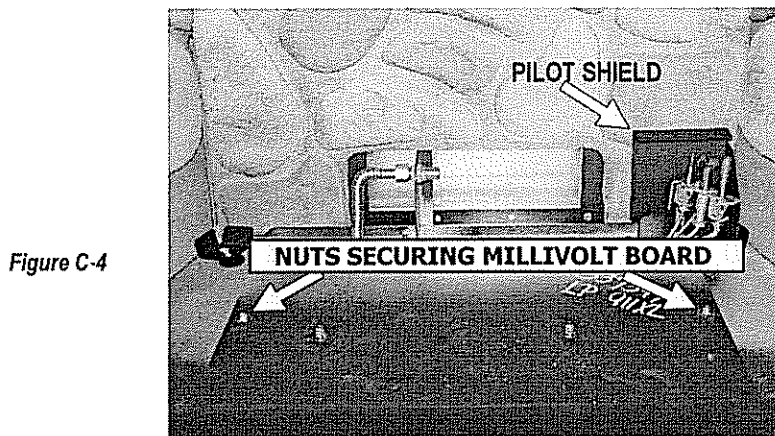

Figure C-4
- B) Remove pilot shield from behind the pilot assembly Refer to Figure C-4
- C) Loosen and remove the (2) 1/4" nuts securing the millivolt board to the firebox bottom. Lift the board off the studs and remove from the firebox (Figure C-4)